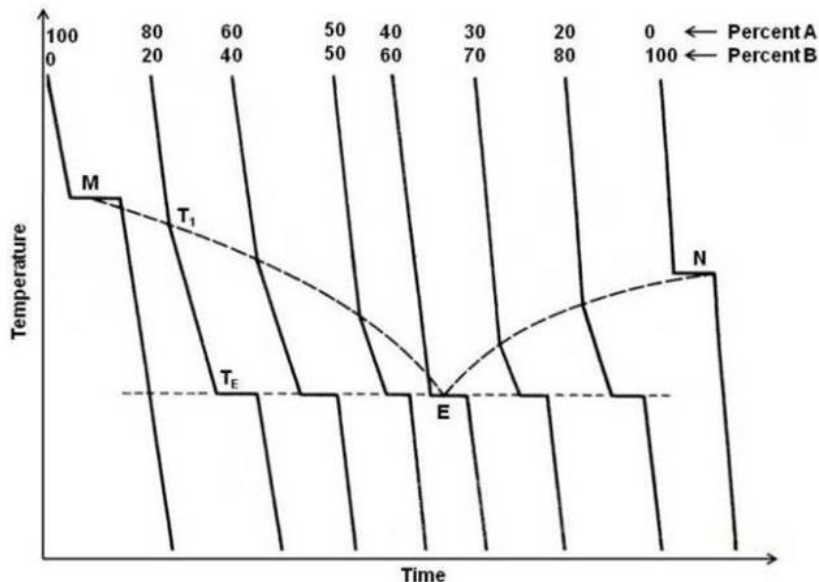

Fig.4.4 - Cooling curves for two metals insoluble in solid-state
- ▶ To find out the composition of phases which are stable at a given temperature (say 900°F, Fig 4.4), draw a horizontal (isothermal) line, OP at the given temperature.
- ▶ The intersection of this composition vertical (AL) and a given isothermal line OP (i.e. point M) is the fulcrum of a simple lever system and OM and MP are lever arms,(fig 4.4).
- ▶ A system that illustrates an equilibrium diagram in which there is complete solubility in the liquid and solid states is that of Antimony – Bismuth system shown in figure 4.4.
- ▶ In the eutectic system, there is always a specific alloy, known as eutectic composition (fig 4.4), that freezes at a lower temperature than all other compositions.